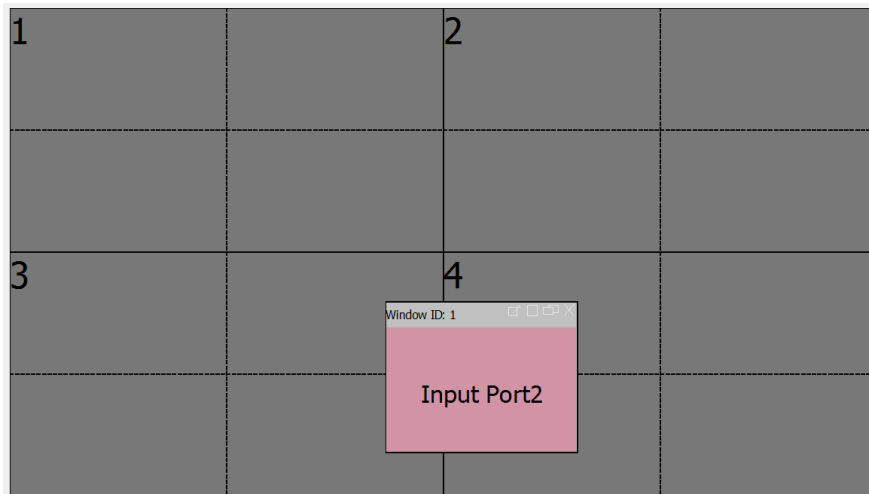

Figure 41: re-positioned image to make pixel 0,0 appear in screen 3
- If we were to re-position the image as below in figure 41, pixel 0,0 is now in screen 3 so when zoomed to a single screen it will fill screen 3